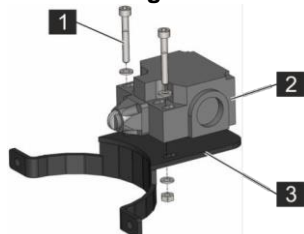

Fig. 5: Mounting switch
1. Install switch (Fig. 5/2) at the support (Fig. 5/3) using screws (Fig. 5/1), washers (4 pcs) and nuts (do not tighten at this point).